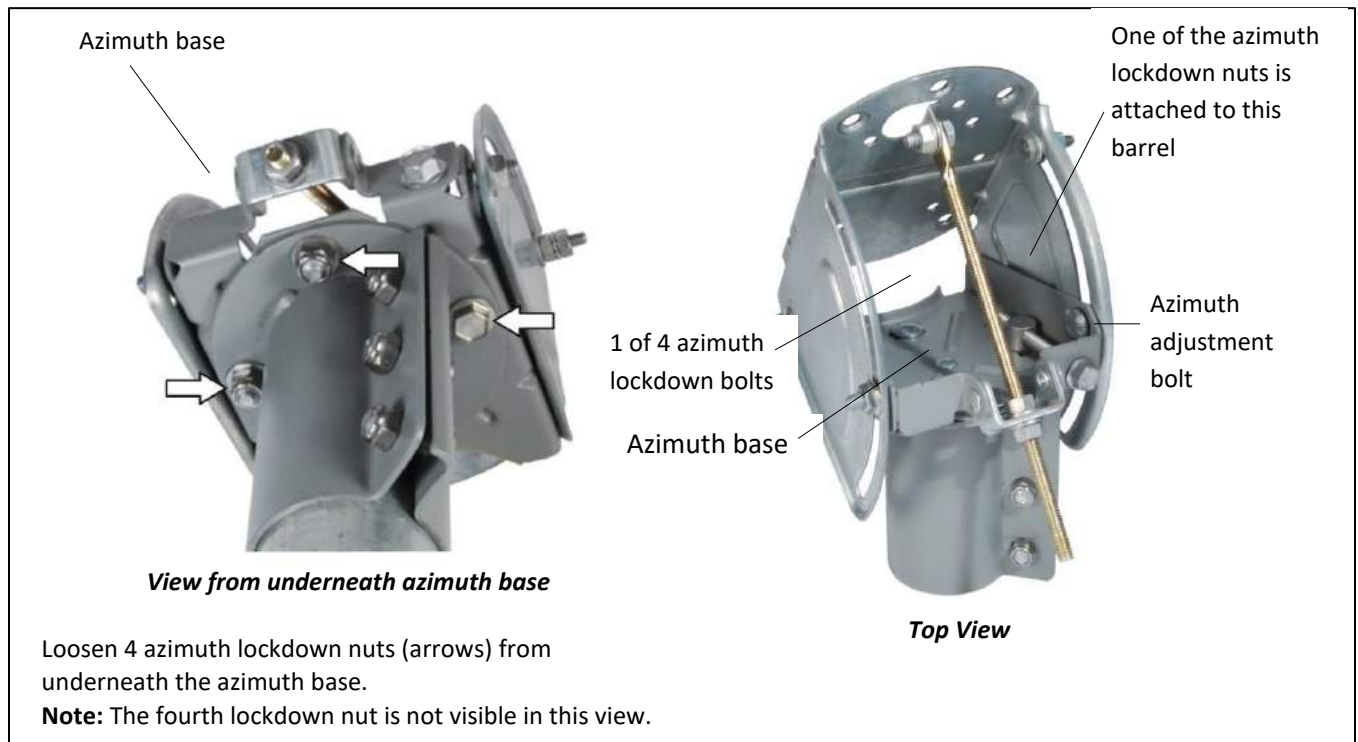

Figure 28: Checking the azimuth base starting position
Before making any azimuth adjustments, ensure that the azimuth lockdown bolts are centered in the curved slots in the azimuth base. See Figure 28.
2. Using a $\frac{1}{2}$ inch wrench, rotate the azimuth adjustment bolt shown in Figure 28 on page 42 in either direction to achieve the desired azimuth angle.